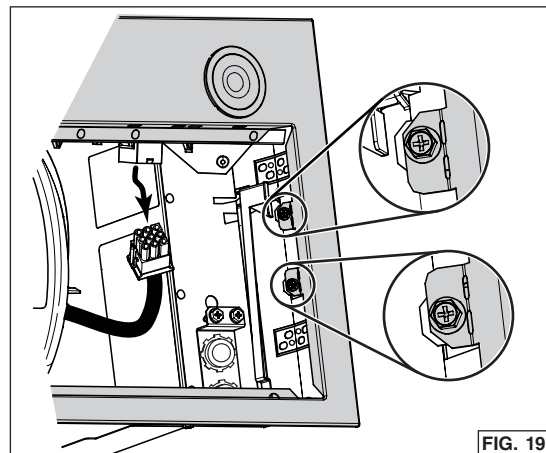

FIG. 19
5. Unplug the blower cable from its connector on faceplate. Disassemble the faceplate from the unit by removing its 4 retaining screws (two per side, circled in FIG. 19). Set aside the faceplate along with its screws.